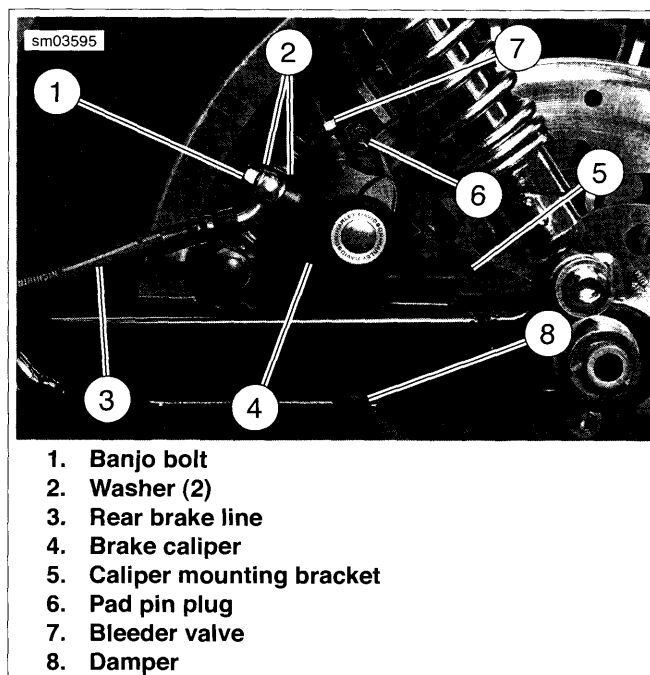

Figure 2-95. Rear Caliper Assembly
3. See Figure 2-95. Remove the banjo bolt (1) and both washers (2) to detach rear brake line (3) from brake caliper (4). Discard washers.
4. Remove pad pin plug (6).
8. See Figure 2-95. Remove rear brake caliper (4) and caliper mounting bracket (5) as an assembly.